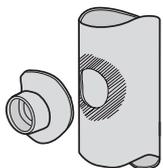
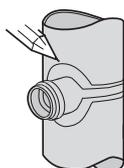

Fig.26a Saddle adaptor
Fig.26b Strap on boss
Step 3 – Position saddle (Fig.26a) or strap on boss (Fig.26b) and mark outline of saddle or boss flange on pipe